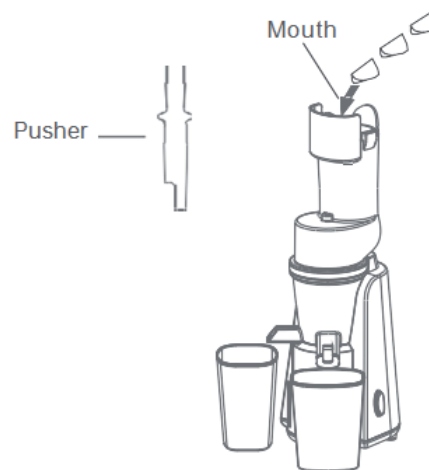

Fig. 2
3. Pull the pusher and put in the ingredient one by one into the feeding tube.(fig.2)